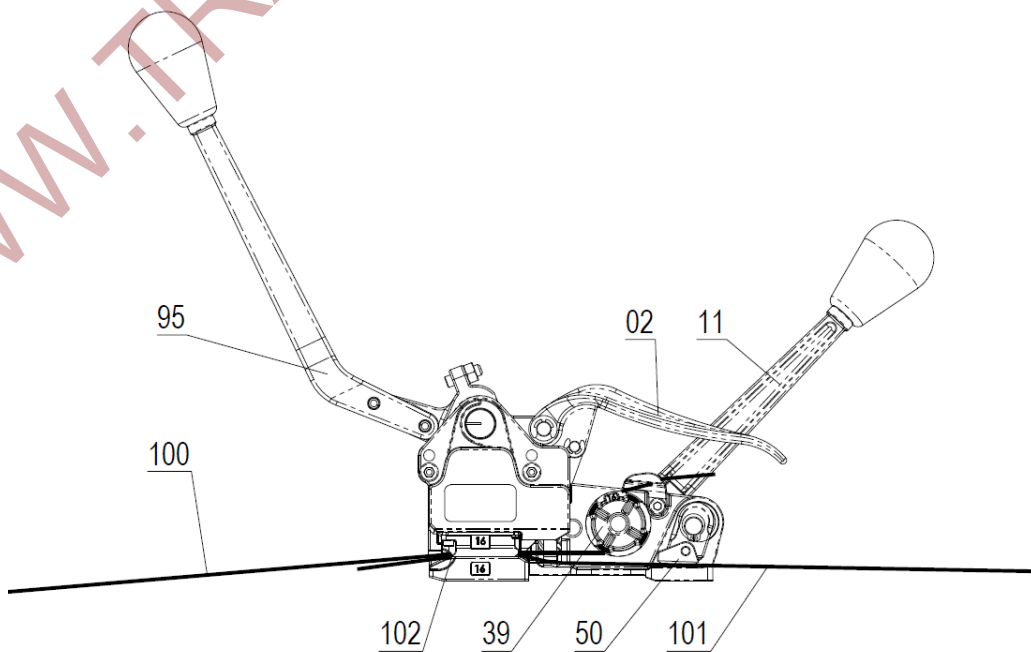

Fig. 6
5. Once satisfactory tension is achieved return **Tension Handle 11** back and push **Sealing Handle 95** forward (as shown on Fig. 6) to close the seal.